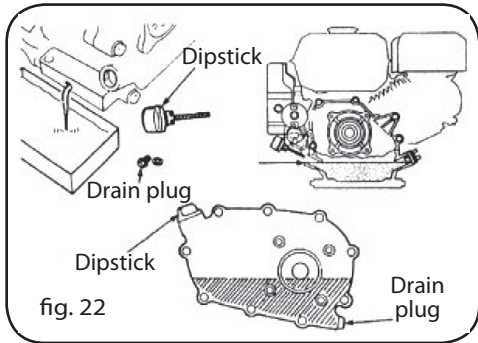

fig. 22
- a) Turn off the oil filler cap and drain plug to drain engine oil thoroughly. Reinstall the drain plug and screw in securely (Fig. 22).